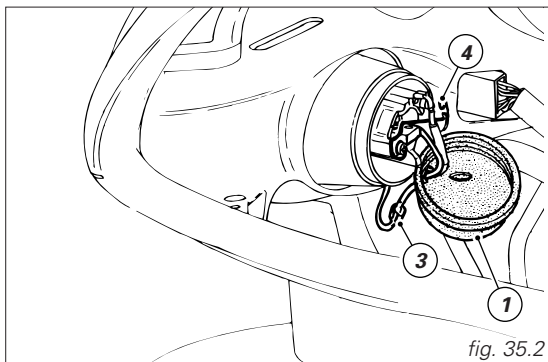

fig. 35.2
L.h. high beam bulb (fig. 35.2): disconnect the connector (3) of the white bulb cable from the front wiring, remove the rubber cover (1) from the headlamp body and pull out the bulb cable.
Hook the clip (4, fig. 35.2) to the headlamp holders; reconnect the cables and refit the rubber cover (1, fig. 35.2).